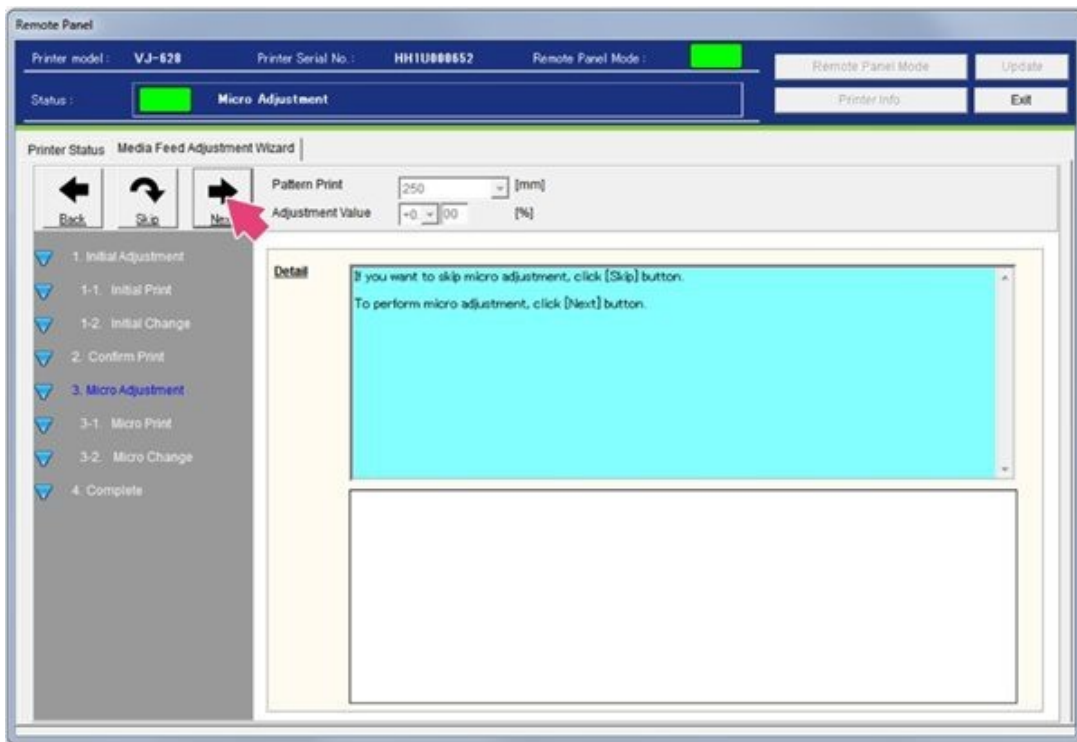

Figure 99
86. Initial Micro Adjustment. Select **Next**. See Figure 99.